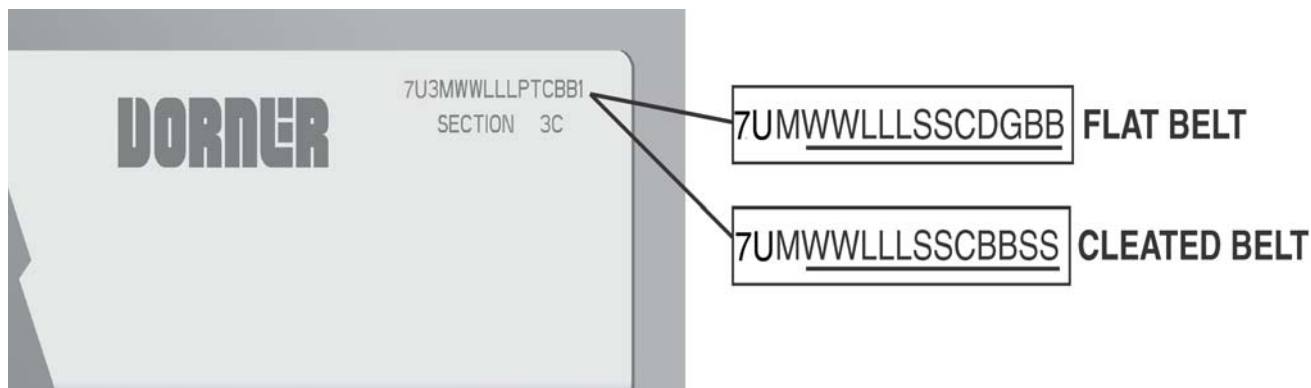

Figure 86
Refer to the model number on the conveyor frame (**Figure 86**). From the model number, determine conveyor width (WW), length (LLL), drive stand location (S), idler stand location (S), cleaning options (C), drive/pulley type (D), profile (G) and belt material (BB).
Refer to the model number on the conveyor frame (**Figure 86**). From the model number, determine conveyor width (WW), length (LLL), drive stand location (S), idler stand location (S), cleaning options (C), cleated belt material (BB) and cleat spacing (SS).